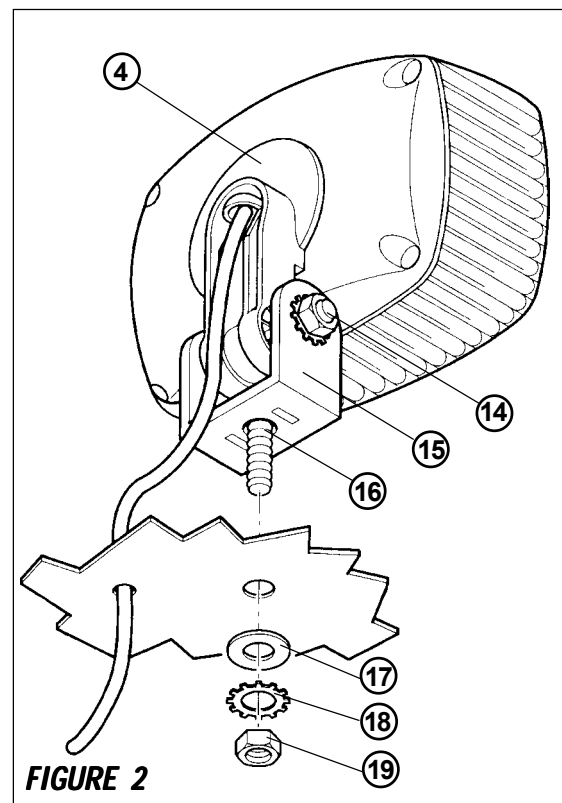

FIGURE 2
3) Secure the light assembly to the mounting surface using the bolt N°16, washer N°17, lockwasher N°18, and nut N°19 as shown in figure 2.